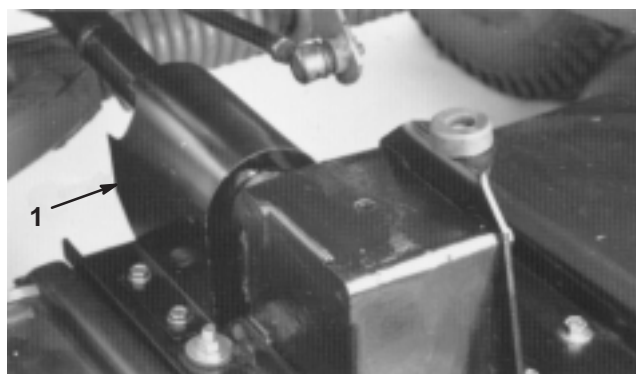

Figure 4
1. Remove the 2 self-tapping screws securing the PTO shield to the top of the cutting unit gear box mounting plate and remove the shield (Fig. 4).